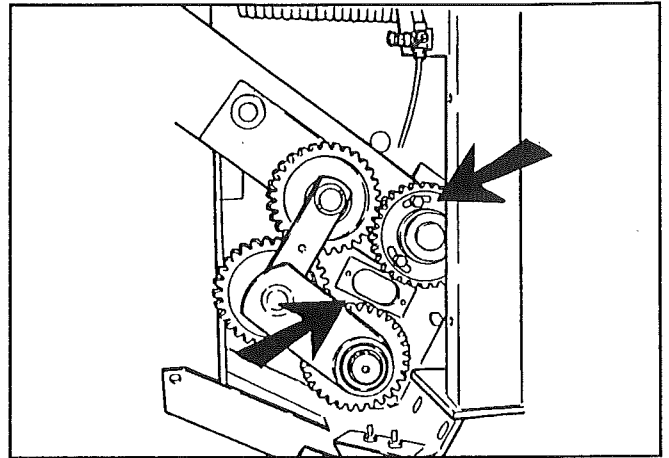

Fig. 18
**FIG. 18** The rollers must always be correctly synchronized so that they keep step with each other, so that the rubber fillets on one roller moves precisely down between the rubber fillets on the other roller.